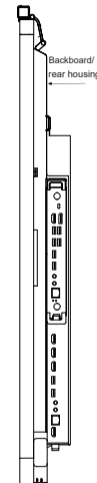

figure 2
Step 2: When the product is a non- iron back plate or back shell, the silica gel pressing block on the bracket is in contact with the non- iron back plate, and the semicircular surface of the silicone pressing block is in contact with the top of the non- iron back plate. As shown in figure 2.